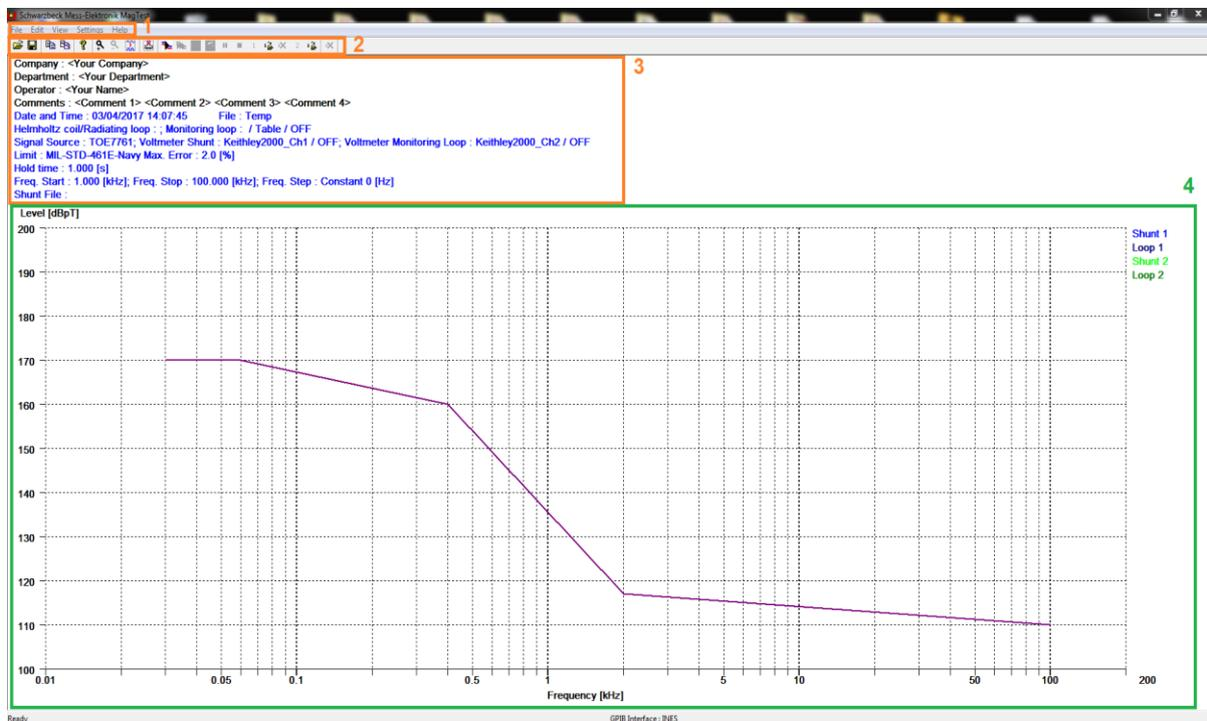
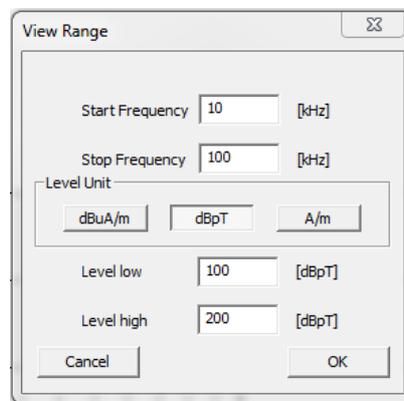
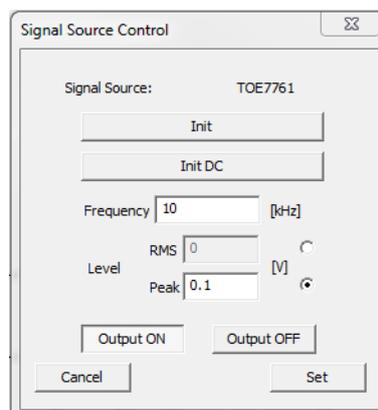

Figure 8: the main MagTest software operating panel.
Figure 9: the view range panel.
Figure 19: the signal source control panel.
Figure 8 shows the main window of the MagTest software: it can be mainly divided in different sections, which will be described in details in the following.
- **section 4** occupies the main area of the software's window and it shows the limit (from the normative) and the produced magnetic field levels (in Figure 8 the magnetic field strength is shown in dBpT) as a function of the increasing frequency (in kHz). On the top-right area of this section, a legend provides the information relative to the measuring devices (resistive shunts and monitoring loops), which are used to measure the field and will be described in the dedicated paragraph.
By selecting the “View Range” option from the “View” menu in Section 1 (see Figure 8), it is possible to change the start-stop frequencies (in kHz) on the horizontal-axis, the unit of measurement of the magnetic field levels (which can be displayed in dBuA/m, dBpT and A/m) and the minimum-maximum magnetic field levels (in the previously selected unit) on the vertical axis. An example is shown in Figure 9. After having set all the wished numbers and unit, it is then possible to set these values clicking on the “OK” button. This will consequently change the aspect of the Section 4, which is shown in Figure 8.
It is possible to change the size of the text which is displayed in Section 3 (see Figure 8) and alongside the X and Y axes. To do that the user should select the option “Font size text” from the “View” menu; then it will be possible to enlarge the text clicking on it with the mouse left-button or to make it smaller, clicking on the text with the mouse right-button. The font on the axes can be modified in an analogous way, after having selected “Font size graph” from the “View” menu.
The first step requires the validation of the function generator: in Section 2 (see Figure 8) click on the button . This action will open the dialog “Signal Source Control” shown in Figure 19.
The second step requires the validation of the voltmeter: in Section 2 (see Figure 8) click on the button